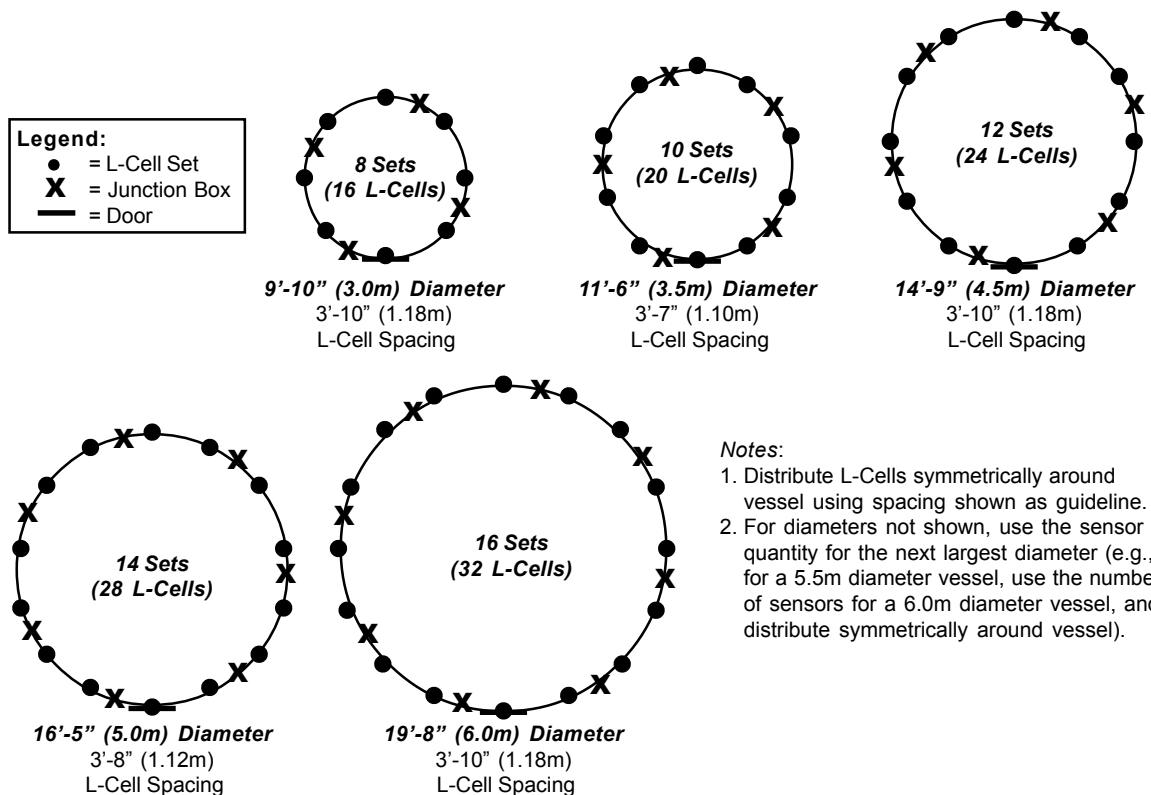
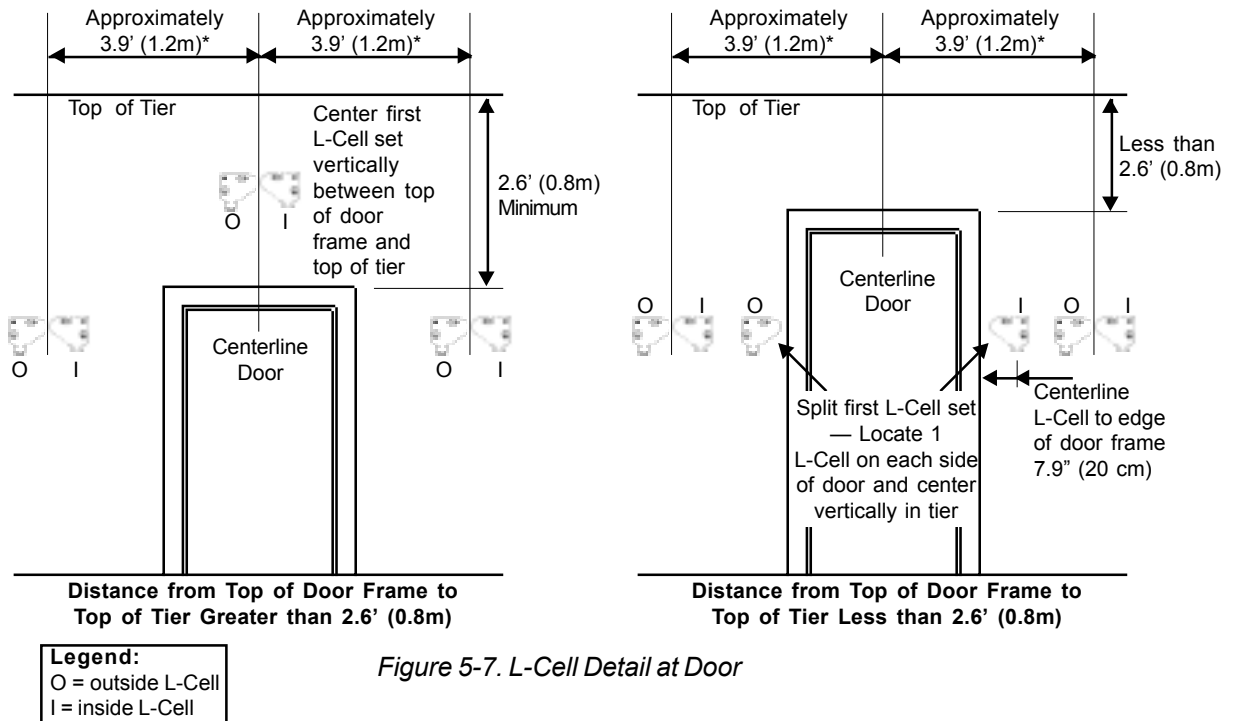

Figure 5-5. Plan View — L-Cell and Junction Box Locations (Aluminum)
Figure 5-7. L-Cell Detail at Door
See Figures 5-5 and 5-6. Typical aluminum skirt-supported vessel sizes are shown in Figure 5-5. L-Cells are placed symmetrically around the vessel, with a maximum spacing of 4' (1.2m) between L-Cells. Typically, the tiers are 6.6' to 8.2' (2.0 to 2.5m) high, and the L-Cells are placed at the vertical centerline of the tier.
See Figure 5-7. Place the first L-Cell set at the centerline of the door, or place one L-Cell at each side of the door.
1. From Figure 5-5, for a 3m diameter vessel, the spacing between sensors is approximately 1.18m. Locate L-Cell sets at 1.18m spacings around the vessel, for a total of 16 L-Cells (8 locations x 1 L-Cell set/location x 2 L-Cells/set). From Figure 5-7, center the first set above the door.
*Note: See Figure 5-5 for spacing, which is dependent on skirt diameter.